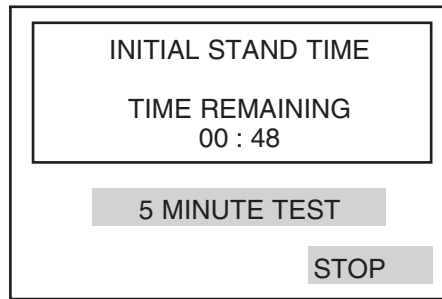

Figure 5 Example Initial stand time screen
1. On pressing the 'START' key the display screen appears similar to that shown in figure 5.
1. On pressing the 'START' key 'TEST 1' is initiated. The display screen appears similar to that shown in figure 5.
1. On pressing the 'START' key 'TEST 1' is initiated and the display screen appears similar to that shown in figure 5.
1. On pressing the 'START' key 'TEST 1' is initiated and the display screen appears similar to that shown in figure 5. The stirrer operates and continues to do so throughout the test sequence. The sub-display area indicates that the initial stand time of 3 minutes for the oil sample is being undertaken and the time is being counted down to zero.